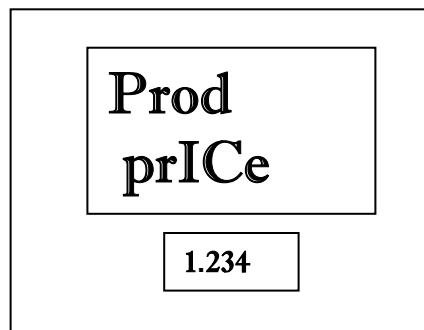

Figure 10
3. When the correct price appears in the Price Per Volume display window, press the **ENTER** button. The PPV displays the new price. See Figure 10.